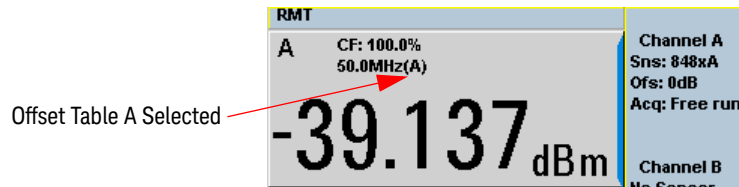

Figure 2-9 Frequency dependent offset indicator
- 4 Press  again to display the measurement screen. **Figure 2-9** shows which offset table is selected.